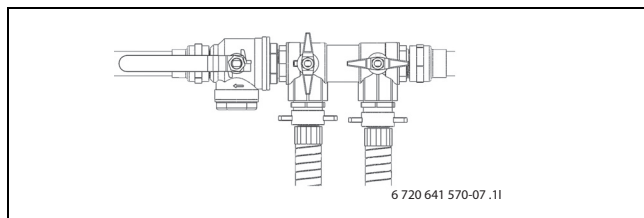

Fig. 30 Filling units in pressure increase position
- The circuit must be pressurized when venting is complete. Turn the valves on the filling unit to pressure increase position and pressurize the circuit to 2.5 to 3 bar (→ Figure 30). Make sure the expansion vessel has an air pocket corresponding to approximately 1/3 of the total volume, by using the de-airing valve on top of the expansion vessel